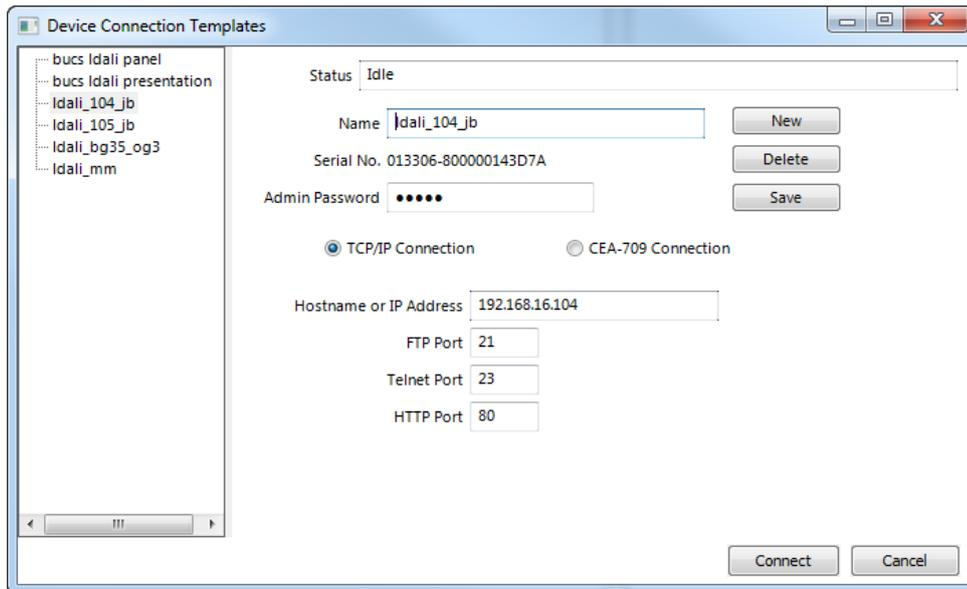

Figure 12: L-DALI Configuration Software, Connection Dialog
2. In the Connection dialog (see Figure 12) enter the IP address of the L-DALI, the user name and password. The default user is 'admin' and the default password is 'loytec4u' (older firmware versions used 'admin').